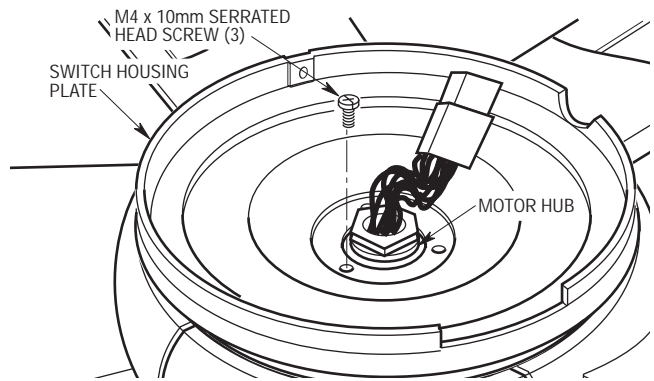

Figure 12
- 15. Position the switch housing plate onto the motor hub and install the three M4 x 10mm serrated head screws to secure (Figure 12).